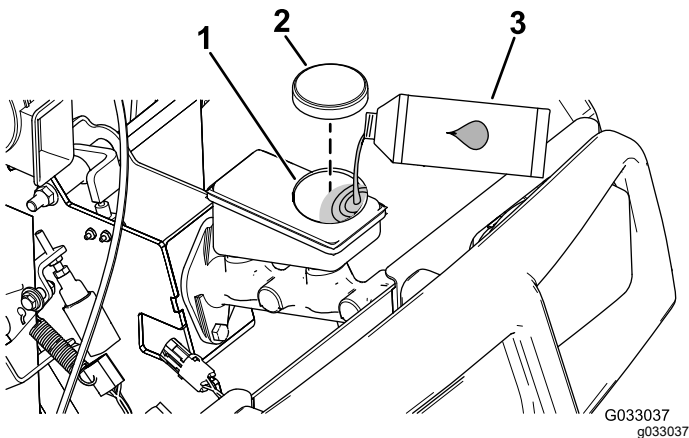

Figure 65
4. Raise the hood to access to the master brake cylinder and reservoir (Figure 65).
- A. Clean the area around the reservoir cap and remove the cap (Figure 65).
- C. Install the reservoir cap (Figure 65).